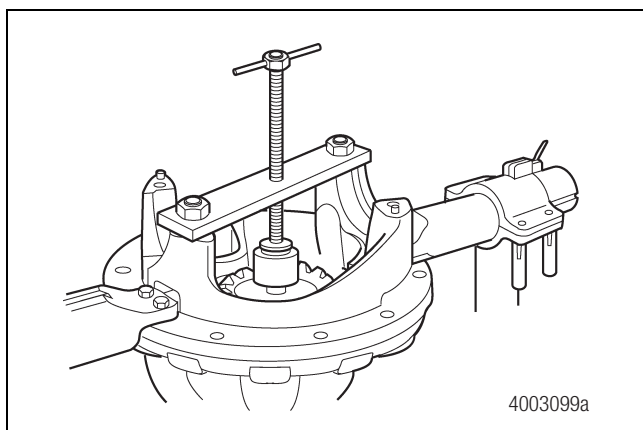

Figure 4.18
6. Install the pinion into the carrier housing. Use a pinion positioner, tool drawing number 5020, to secure the pinion. Figure 4.18. Refer to Section 8, Figure 8.1, for instructions to build the tool.